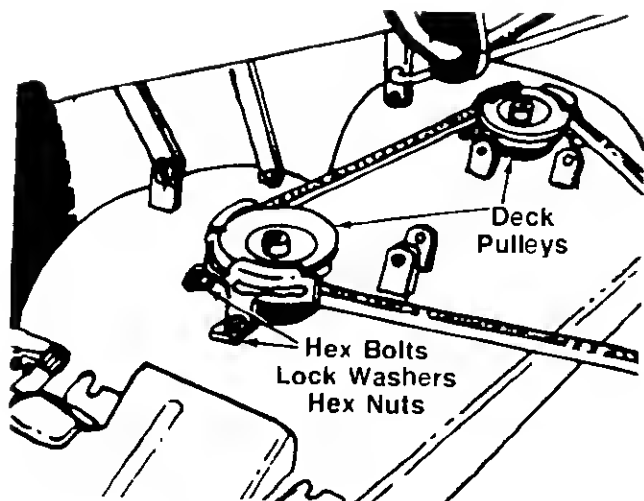

FIGURE 27.
8. Remove the belt guards at each deck pulley by removing the hex bolts, lock washers and hex nuts. See figure 27.